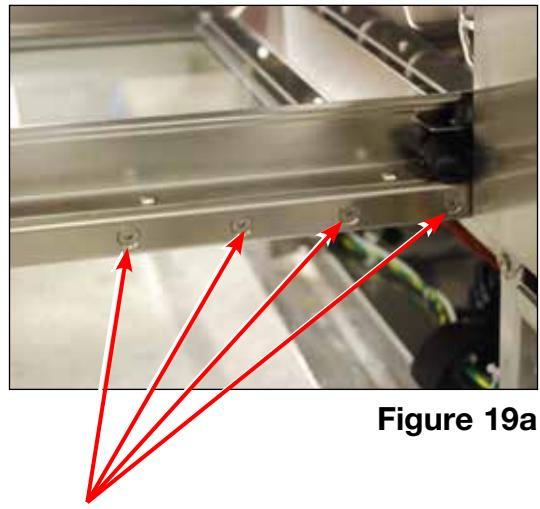

Figure 19a
2. Remove the 4 screws on each side. (Figure 19a)